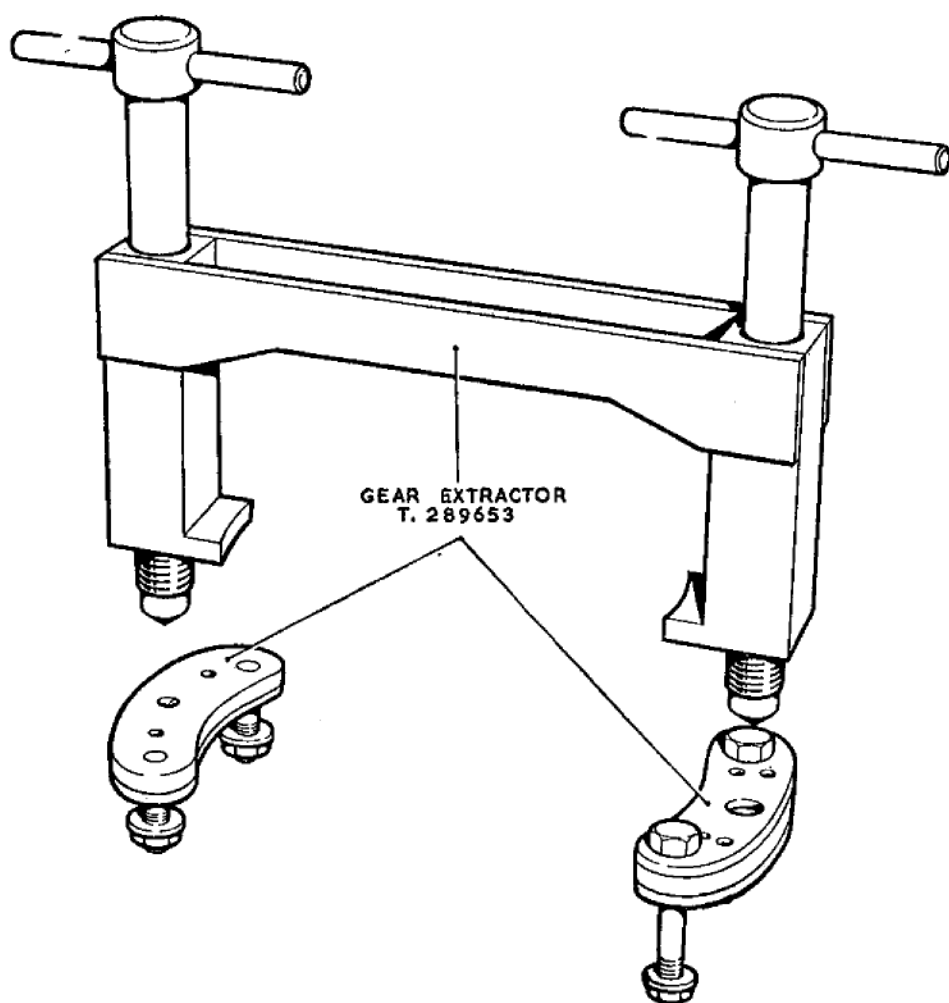

Fig. 2. Gear extractor
26. With the camplate in a vertical position, gears uppermost, unlock and remove the bolts (57). Use the extractor T.289653 (fig. 2) to remove the gears.